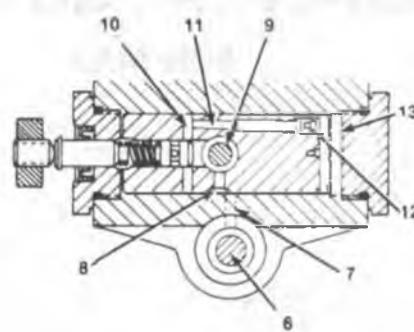

FIGURE 6B
As the engine accelerates, increasing transfer pump pressure is directed through the head locating screw (6) to the housing passage (7) shown in Figure 6B. This passage empties into an elongated groove (8) in the advance piston. Fuel then flows around the groove to the cam advance pin (9) and into the piston bore.